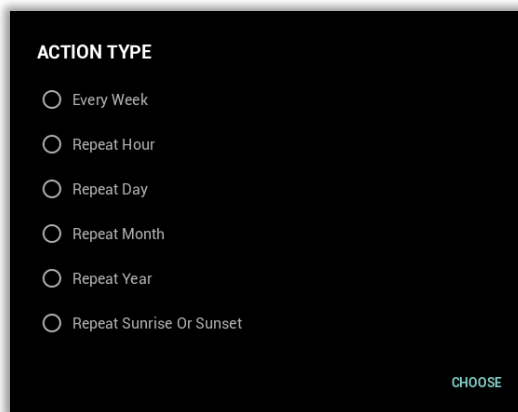

Fig. 25: Create Schedule - Add Schedule Time Action Type Selection
- 1 This touch button is pressed to set the frequency of the schedule. Selection is made from the list in Figure 25.